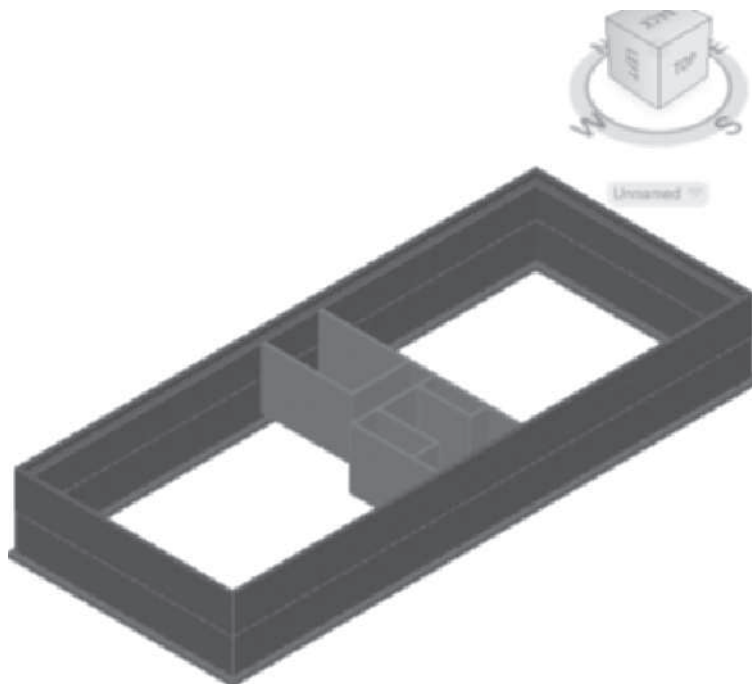

FIGURE 3.96 Pictorial view of basement walls
32. Click in the left viewport. Select **Realistic** from the **Visual Styles** flyout menu of the Visual Styles panel in the **View** tab to view the interior walls shown in Figure 3.96.